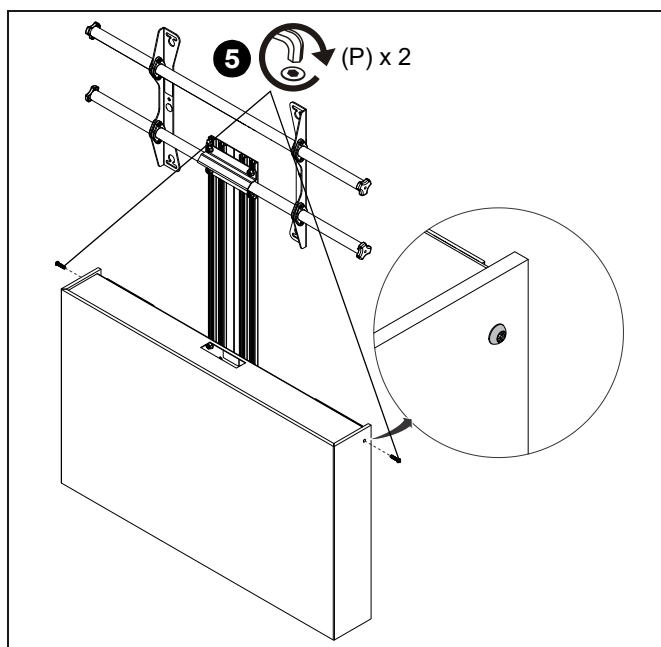

Figure 29
4. Slide the large cover (J) onto the front face of the storage box from the side. (See Figure 29)
5. Secure the large cover (J) to the storage box (H) using two M6 x 25 mm screws (P). (See Figure 29)